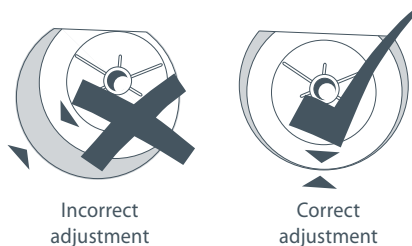

Fig. 7
- 5 Open the lid and check the washer tub to see that it sits slightly forward of centre. (See Fig. 7).